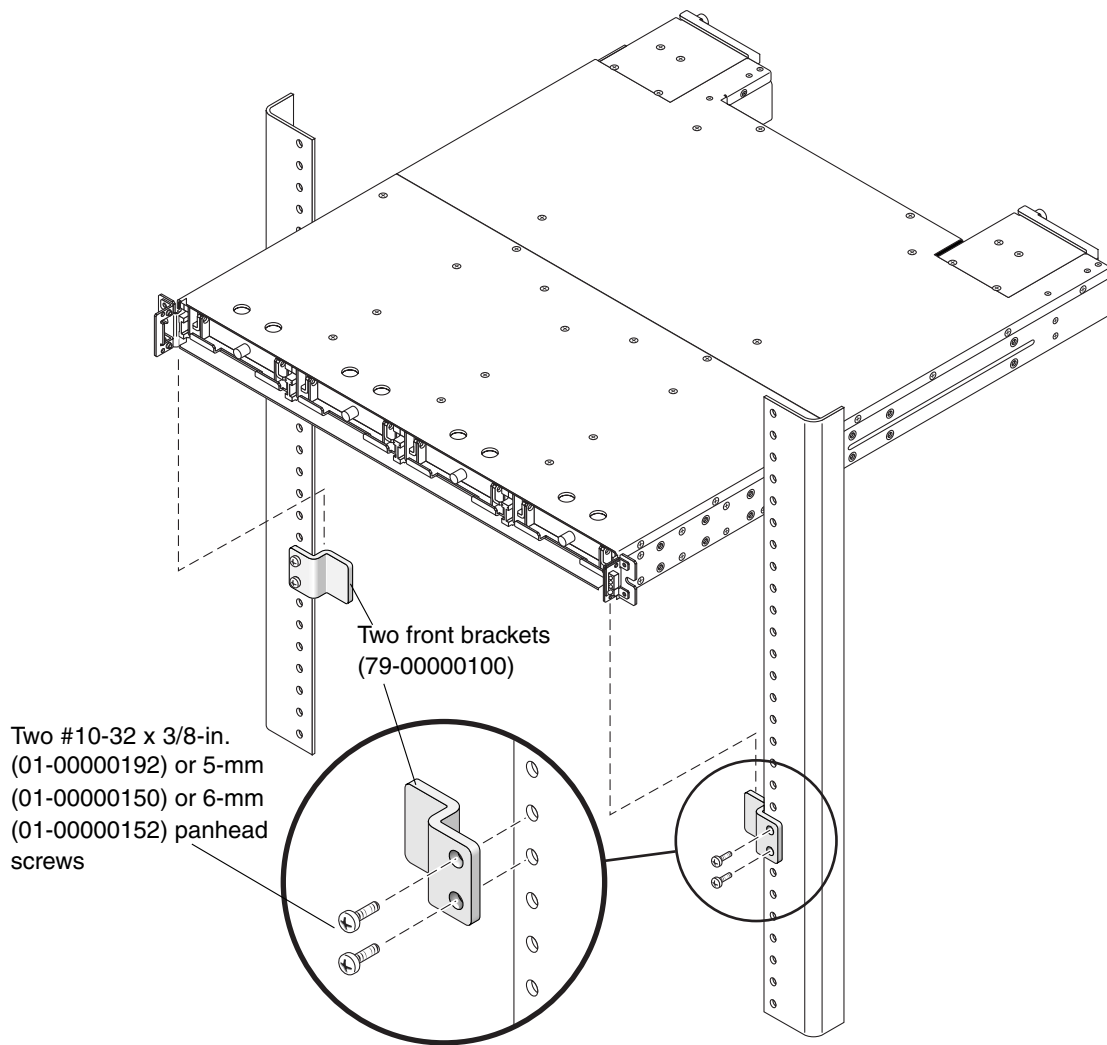

FIGURE 2-3 Front Bracket Position on the Rack Face
a. Attach each front bracket to the rack face (See FIGURE 2-3):